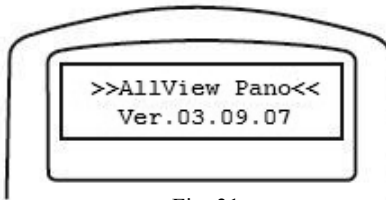

Fig. 31
2. Turn the power on. The firmware version will display on the LCD screen, as shown in **Fig. 31**.